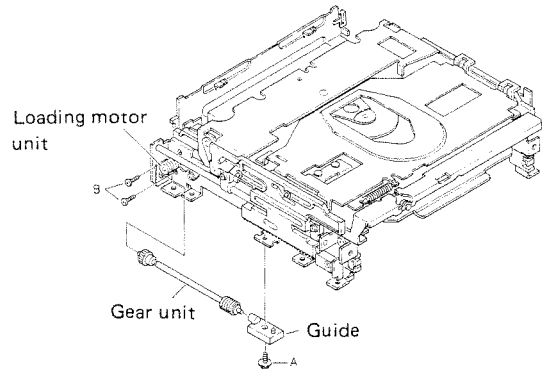

Fig. 14
• **Loading Motor Unit Removal (Fig. 14)**